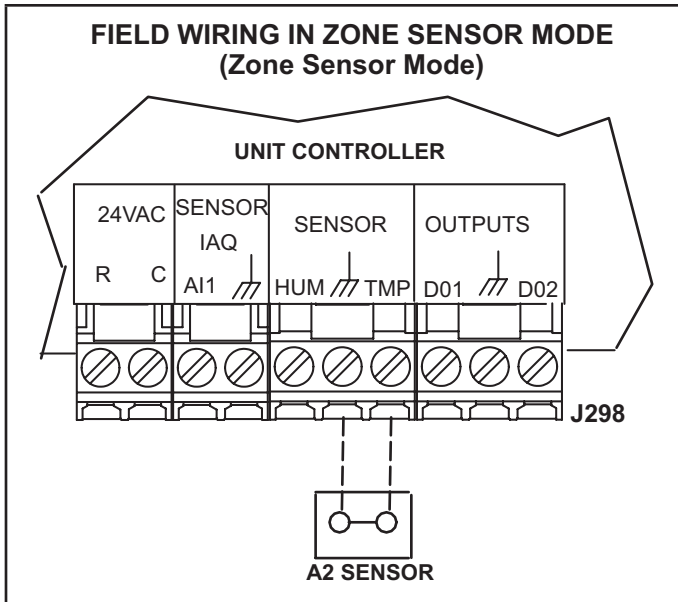
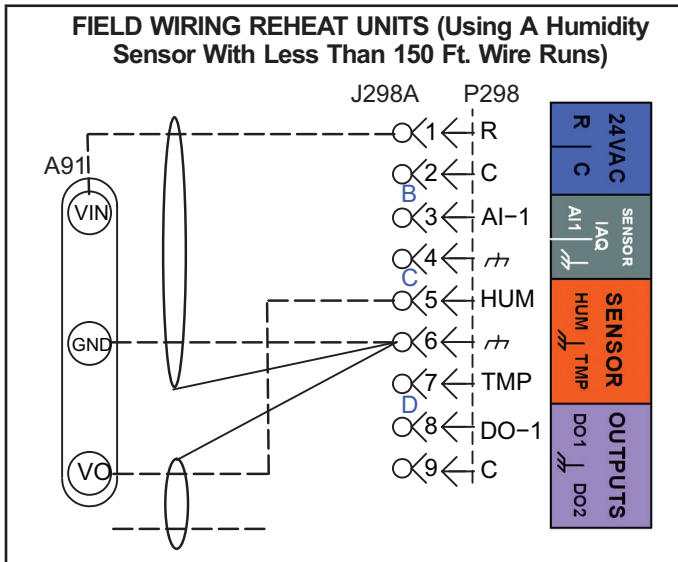
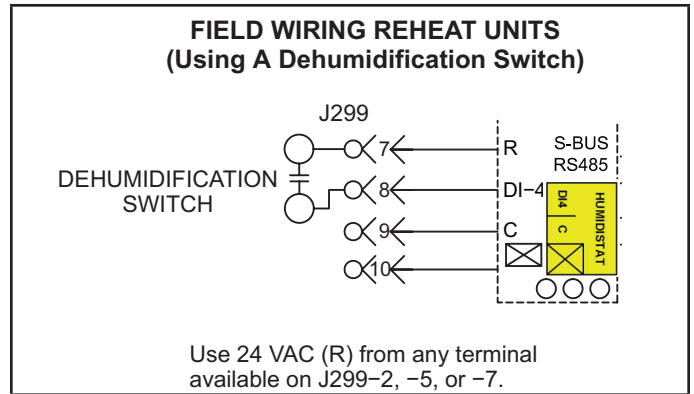
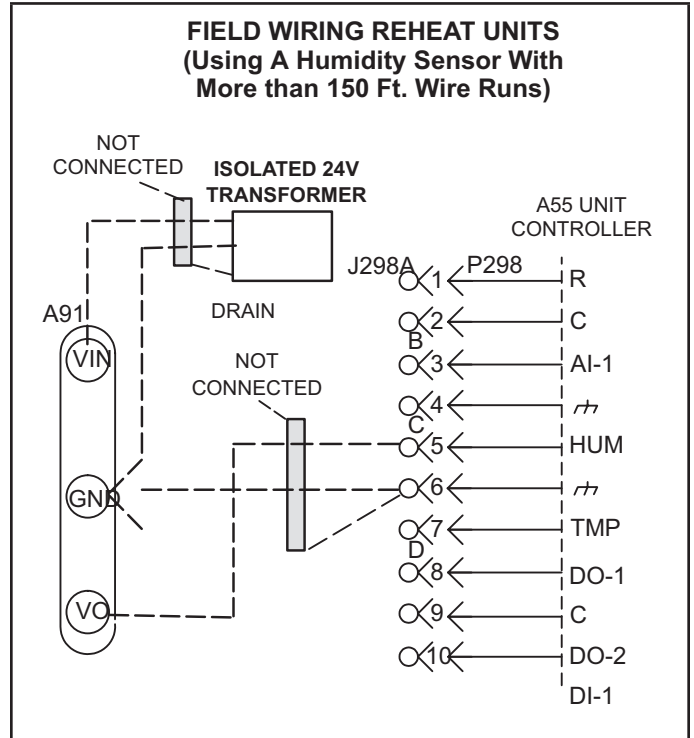

FIGURE 15
FIGURE 16
FIGURE 17
FIGURE 18
The Unit Controller will operate heating and cooling based on the Unit Controller internal setpoints and the temperature from the A2 zone sensor. An optional Network Control Panel (NCP) can also be used to provide setpoints. A thermostat or return air sensor can be used as a back-up mode. Make zone sensor wiring connections as shown in FIGURE 15.
- 2 - Make wiring connections as shown in FIGURE 14 for Thermostat Mode or FIGURE 15 for Zone Sensor Mode. In addition, connect either a humidity sensor or a dehumidification input. See FIGURE 16 or FIGURE 18 for humidity sensor wiring or FIGURE 17 for dehumidification input wiring.
Use two separate shielded cables containing 20AWG minimum, twisted pair conductors with overall shield. Belden type 8762 or 88760 (plenum) or equivalent. Connect both cable shield drain wires to the Unit Controller as shown in FIGURE 16.
Use two separate shielded cables containing 18AWG minimum, twisted pair conductors with overall shield. Belden type 8760 or 88760 (plenum) or equivalent. Connect both cable shield drain wires to the Unit Controller as shown in FIGURE 16.
Use a local, isolated 24VAC transformer such as Lennox cat #18M13 (20VA minimum) to supply power to RH sensor as shown in FIGURE 18. Use two shielded cables containing 20AWG minimum, twisted pair conductors with overall shield. Belden type 8762 or 88760 (plenum) or equivalent.